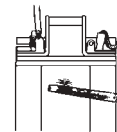

Figure 2
1. Using a small file, scuff up an area on the motor can between the positive and negative tabs (see Figure 2).